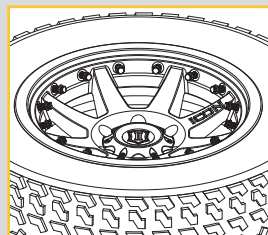

Fig.3
- 3** Mount the tire on the wheel per manufacturer specifications [Figure 3]. Do not fill the tire above 25 PSI while seating the beads. A good air supply is needed as some air will bypass the holes when seating the beads. After both the inner and outer tire beads are fully seated, deflate the tire fully by removing the valve core.